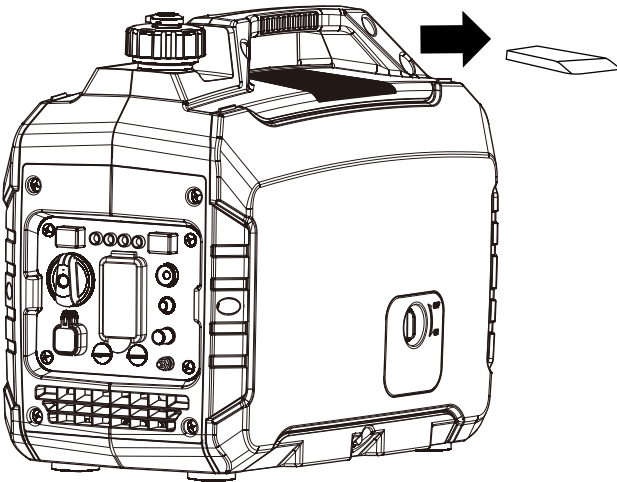

Figure 18: Slide off spark plug cover
3. Slide the spark plug access cover off the housing (see Figure 18)